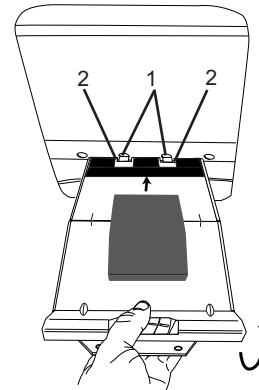

FIGURE 53
- 1.) INSERT THE TWO TABS ON THE FORWARD SIDE OF THE TOP DVD MOUNTING BRACKET (1) INTO THE TWO HOLES (2) IN THE ROOF BOW ABOVE THE MOONROOF BRACKET AS SHOWN. (SEE FIGURE 53)